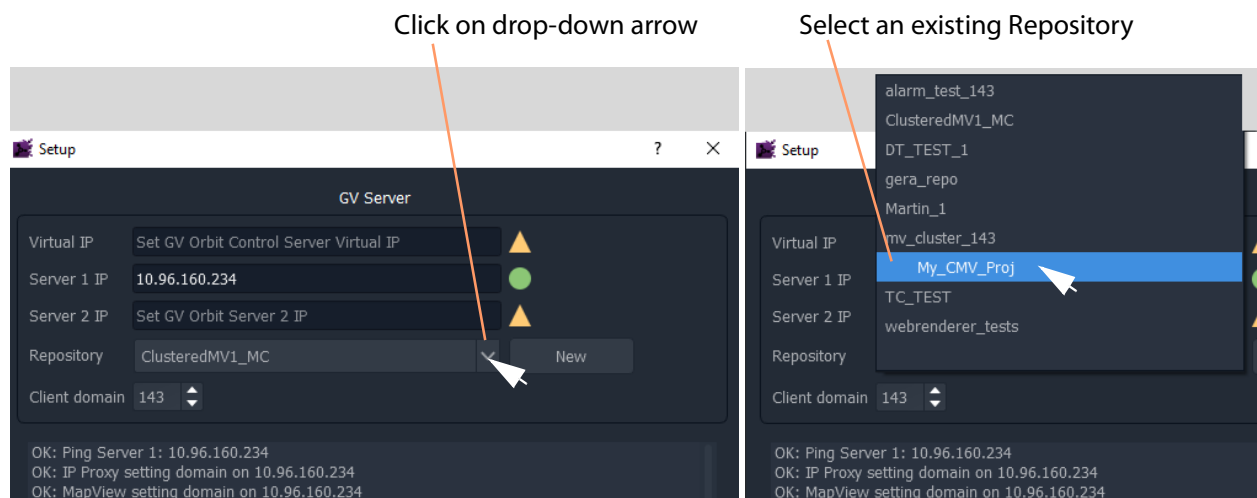

Fig. 7-10: Select Existing Repository
- 1 At the **Repository** drop-down box, select a Repository from the drop-down list. (See Figure 7-10.)